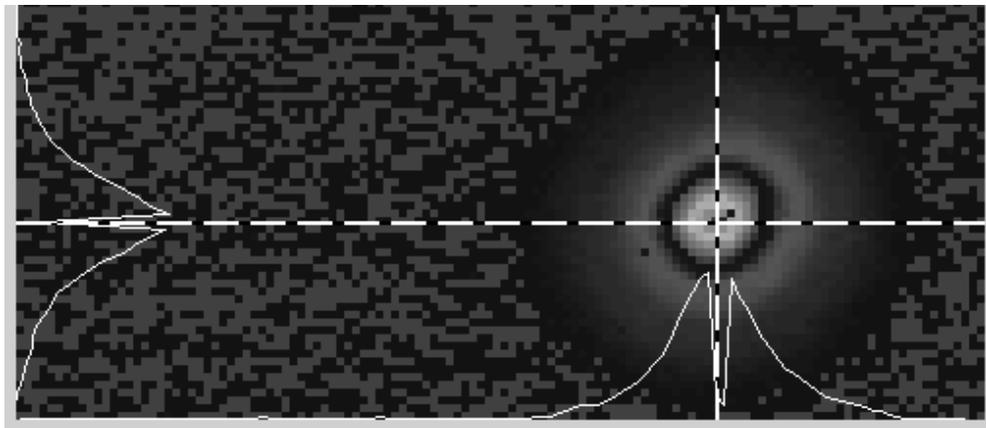

Figure C.1: A Bad Pixel Centered in the Cursors
- STEP 3. Use the mouse to center the cursor on the bad pixel. Observe the horizontal and vertical profile displays. When properly centered, the defective pixel should be clearly visible in both of the profiles. **Figure C.1** shows an example of a bad pixel centered in the cursor, with a few more nearby.